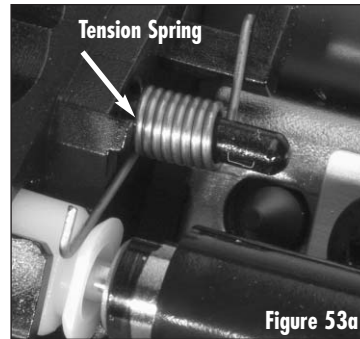

Figure 53a
8. If the toner charging roller is present check the positioning of the contact side and drive side tension springs on the mounting posts as shown in Figure 53a & 53b.